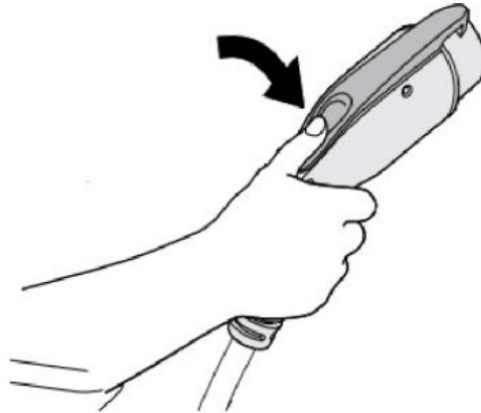

Fig. 6-13 Plug into EV socket
- ▶ As shown in Fig.6-13, plug the charging connector into the AC charging socket of the EV.